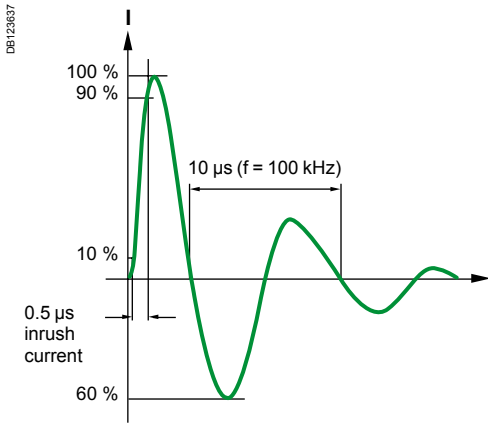

Fig. 1: 0.5  $\mu$ s/100 kHz normalised current waveform
- Switching on capacitors creates a transient inrush current similar to that shown in Fig. 1.